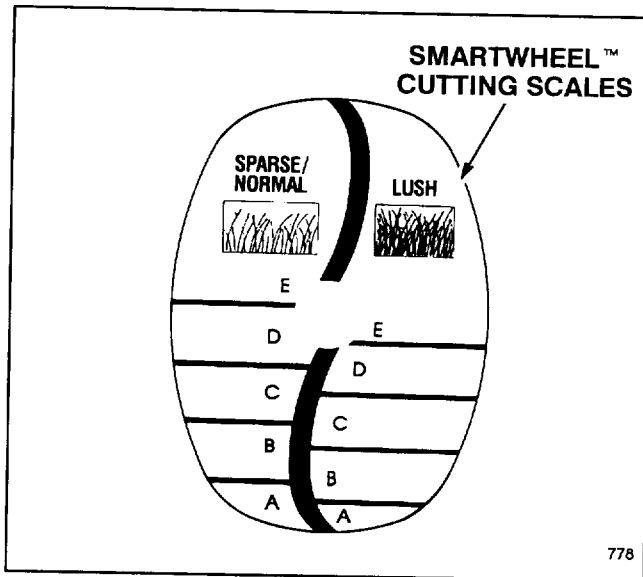

Figure 13
1. Before starting the engine and beginning to mow, push the mower into the grass. Stop when the words SPARSE/NORMAL and LUSH are upright on the SmartWheel design on the rear left wheel (Fig. 13).
2. Using the color coded SmartWheel design (Fig. 13), compare the tips of the grass blades to the colors/letters on the wheel. Whichever color/letter the tips of the grass blades correspond with is the proper cutting height.